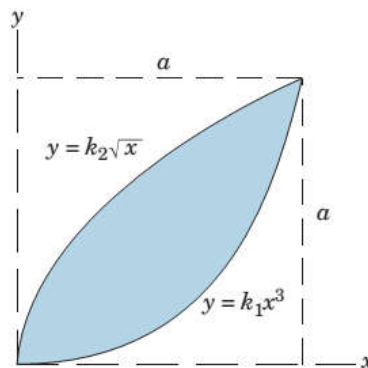

Fig. 4
3. Determine the x- and y-coordinates of the centroid of the shaded area (shown in below in Fig. 4) by direct integration method. [12]